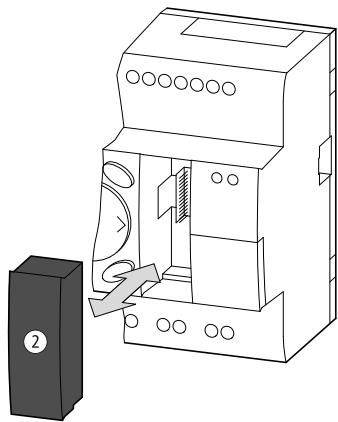

Figure 29: Connecting and removing the memory card ②
- Remove the cover from the interface and connect the connector memory card → figure 29.